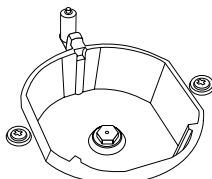

Figure 5
3. As seen in Figure 5, demount burner lid and burner of the hob and ensure visibility of injector.